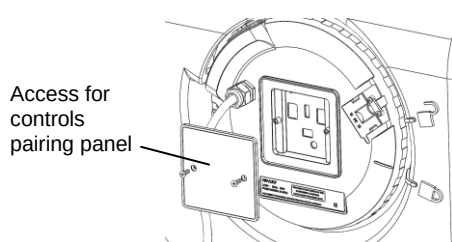

Figure 23 – Removal of Panel
- Remove the 'access for controls pairing' panel (See Figure 23) located on the flying lead side to reveal the registration button and LED (See Figure 24).
- Reattach the 'access for controls pairing' panel (See Figure 23).
- Remove the 'access for controls pairing' panel (See Figure 23), located on the flying lead side, to reveal the registration button and LED (See Figure 24).